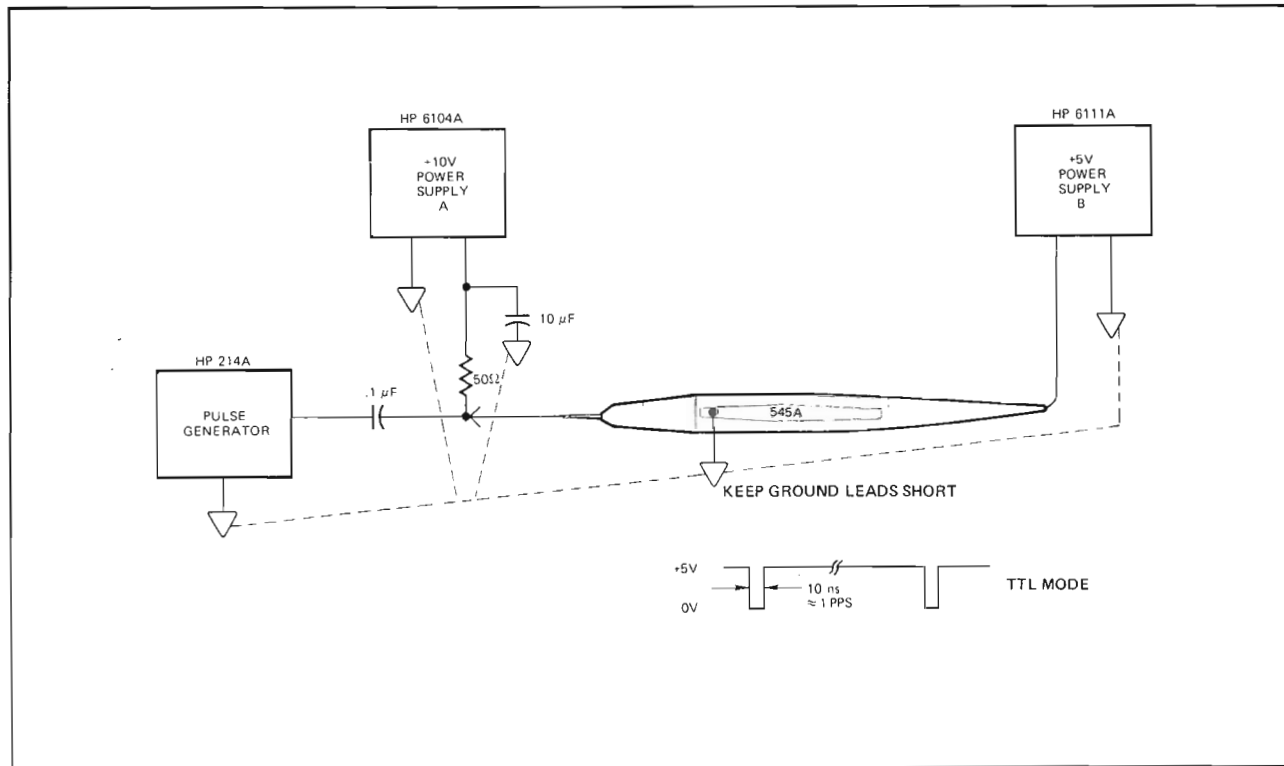

Figure 9. TTL Negative Pulse Performance Test Setup
Negative Pulse Performance Test. With test equipment connected as shown in Figure 9, proceed as follows:
- d. Adjust pulse generator to give waveform at probe tip as shown in Figure 9, with a repetition rate of one-pulse-per-second. Probe indicator should flash off once per second.